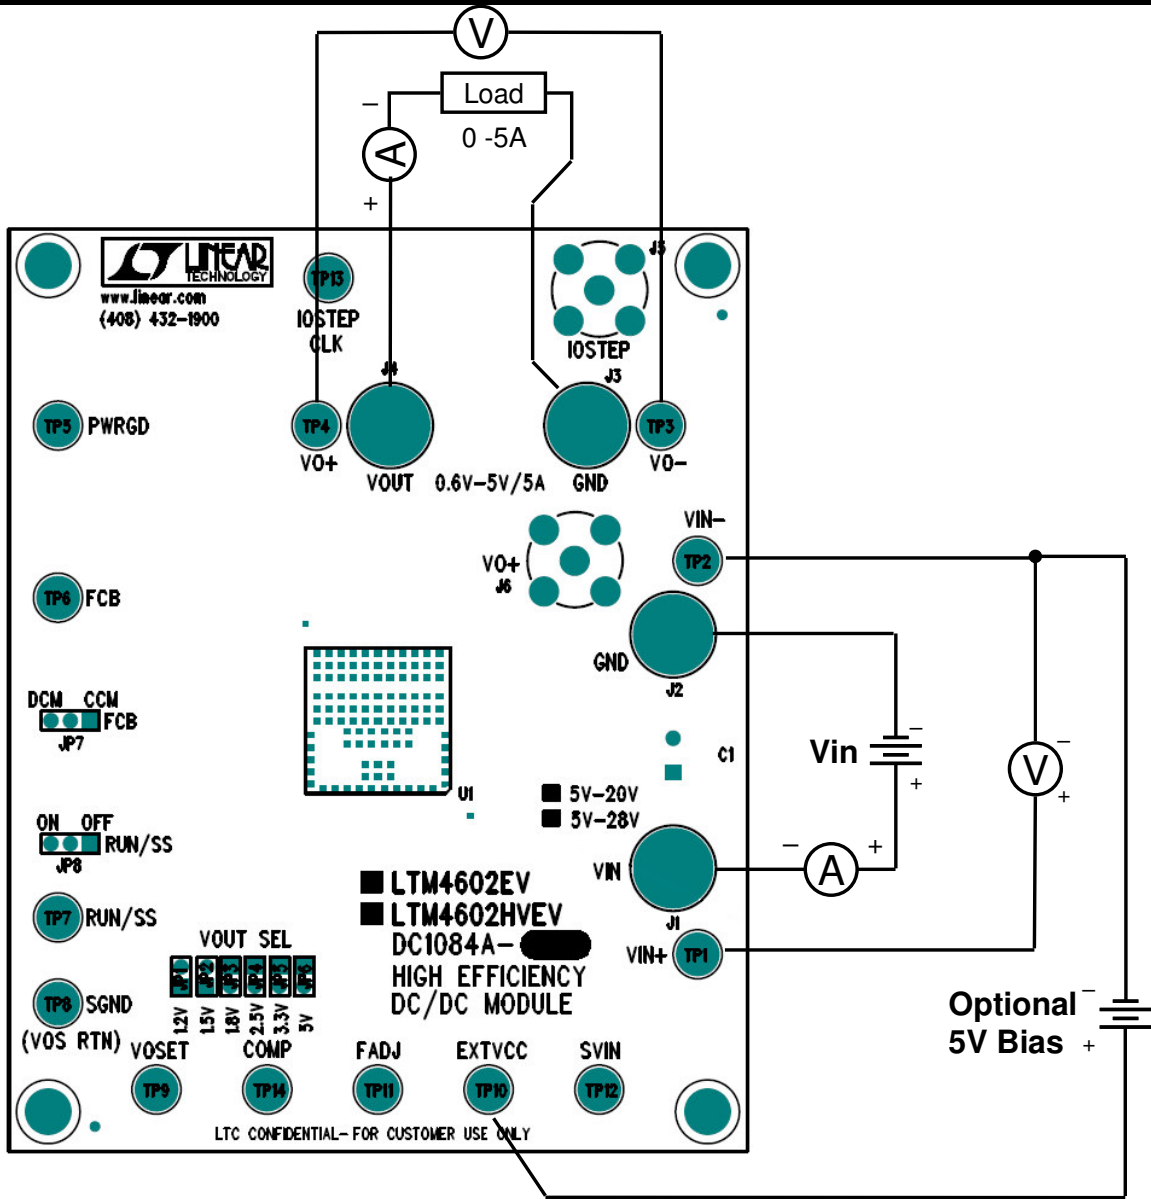

Figure 1. Test Setup of DC1084A-A (EXTVCC Bias Supply is Optional)
Demonstration circuit DC1084A-A is easy to set up to evaluate the performance of the LTM4602EV. Please refer to Figure 1 for proper measurement equipment setup and follow the procedure below:
2. With power off, connect the input power supply, load, optional 5V bias supply and meters as shown in Figure 1. Preset the load to 0A and V_{in} supply to be less than 20V. The optional 5V bias supply must be off while the main V_{in} is turned off